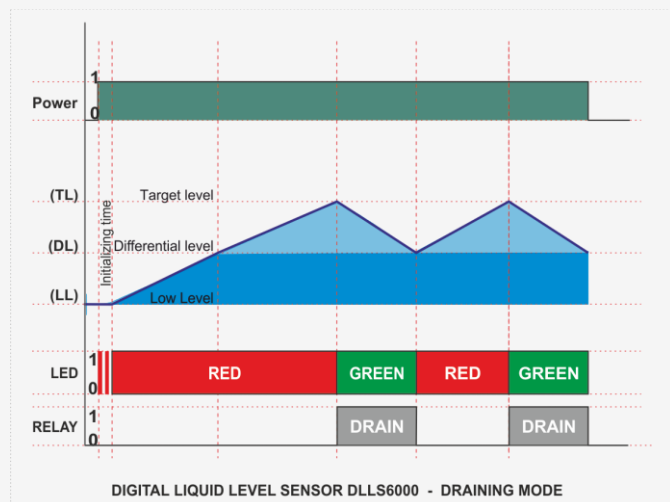

fig. 9
In draining mode, the relay at the beginning is de-activated (provided that the level is detected under the TL) and the tank is filling and activates when the level reaches the TL. At the following operating circles, the relay activates each time the level reaches the (TL) and deactivates when the level reaches the (DL). (*fig. 9*)